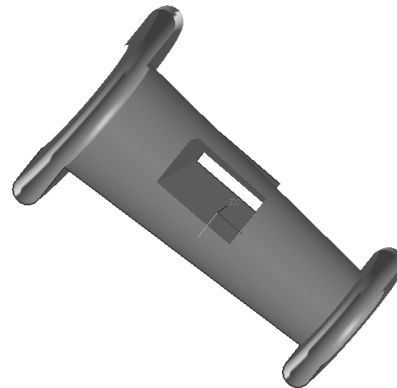

Figure 11-78 The surface model after trimming the base surface with respect to the extruded surface
4. Select the **Discard** radio button from the **Region** rollout and then choose the **OK** button. The resulting surface model after trimming it, is shown in Figure 11-78.